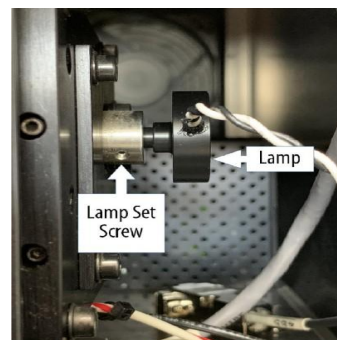
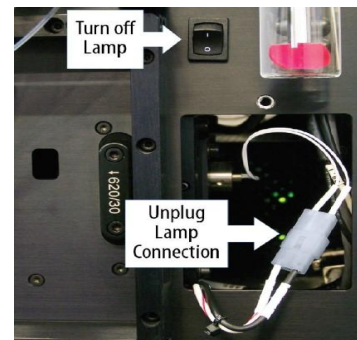

Figure 1. Loosen the Set Screw and pull the old Lamp out.
Figure 2. Turn off the Lamp and unplug the Lamp Connectors.
- Loosen (DO NOT REMOVE) the Set Screw on the Lamp Housing (see **Figure 1**) with the 1.5 mm Ball Driver from the KinExA Accessories Kit. Grasp the Lamp and slide the Lamp from the Housing. Disconnect the electrical connection and remove the expired Lamp through the Lamp Access Door (**Figure 2**).